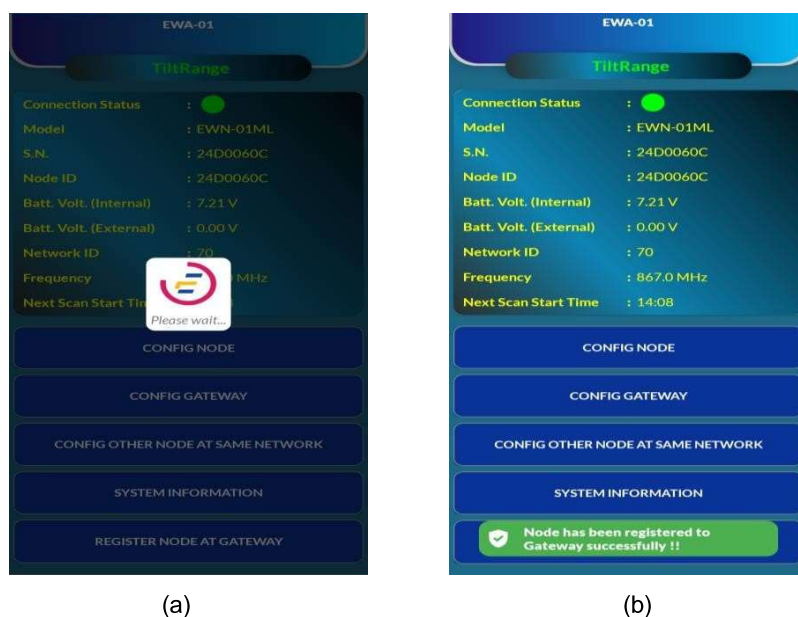

Figure 6-13
- Click on the “Register Node At Gateway” tab from the main menu. While registering, a progress bar will popped up as shown in the figure 6-13 (a) to confirm the process.
- Once the node is registered with the gateway, a prompt window for successful registration will pop-up as shown in the figure 6-13 (b).